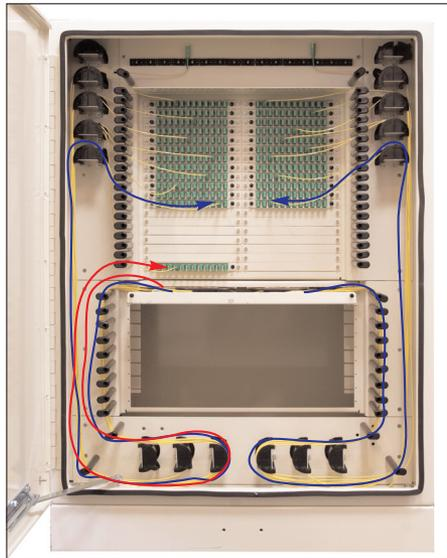

Fig. 16
- Route the input pigtail to the feeder port (Fig. 16 - red line). The input pigtail is identified by the red booted connector.
- Route the output pigtails to the distribution ports (Fig. 16 - blue line).
- Route the output pigtails to the distribution ports on the front of the FSC (Fig. 16 - blue line).